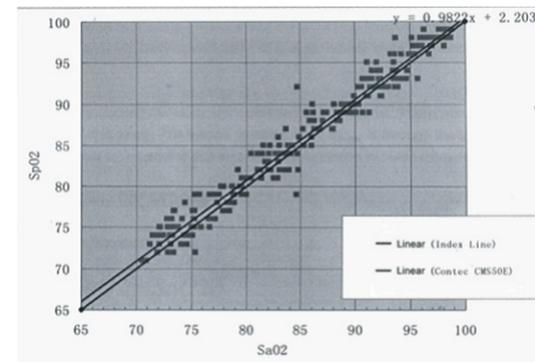

Figure 6: SpO₂ regression plot
- Clinical Trial: SpO₂ regression plot & Bland-Altman plot, Refer to Figures 6 and 7.**